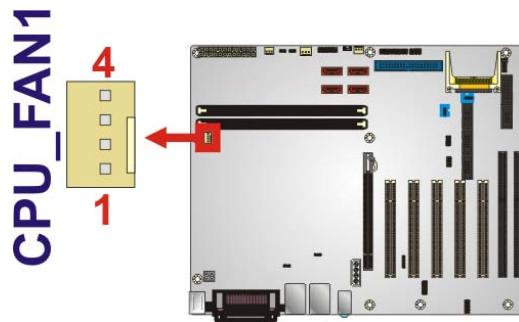

Figure 3-3: CPU Fan Connector Location
- CN Location: See **Figure 3-3**